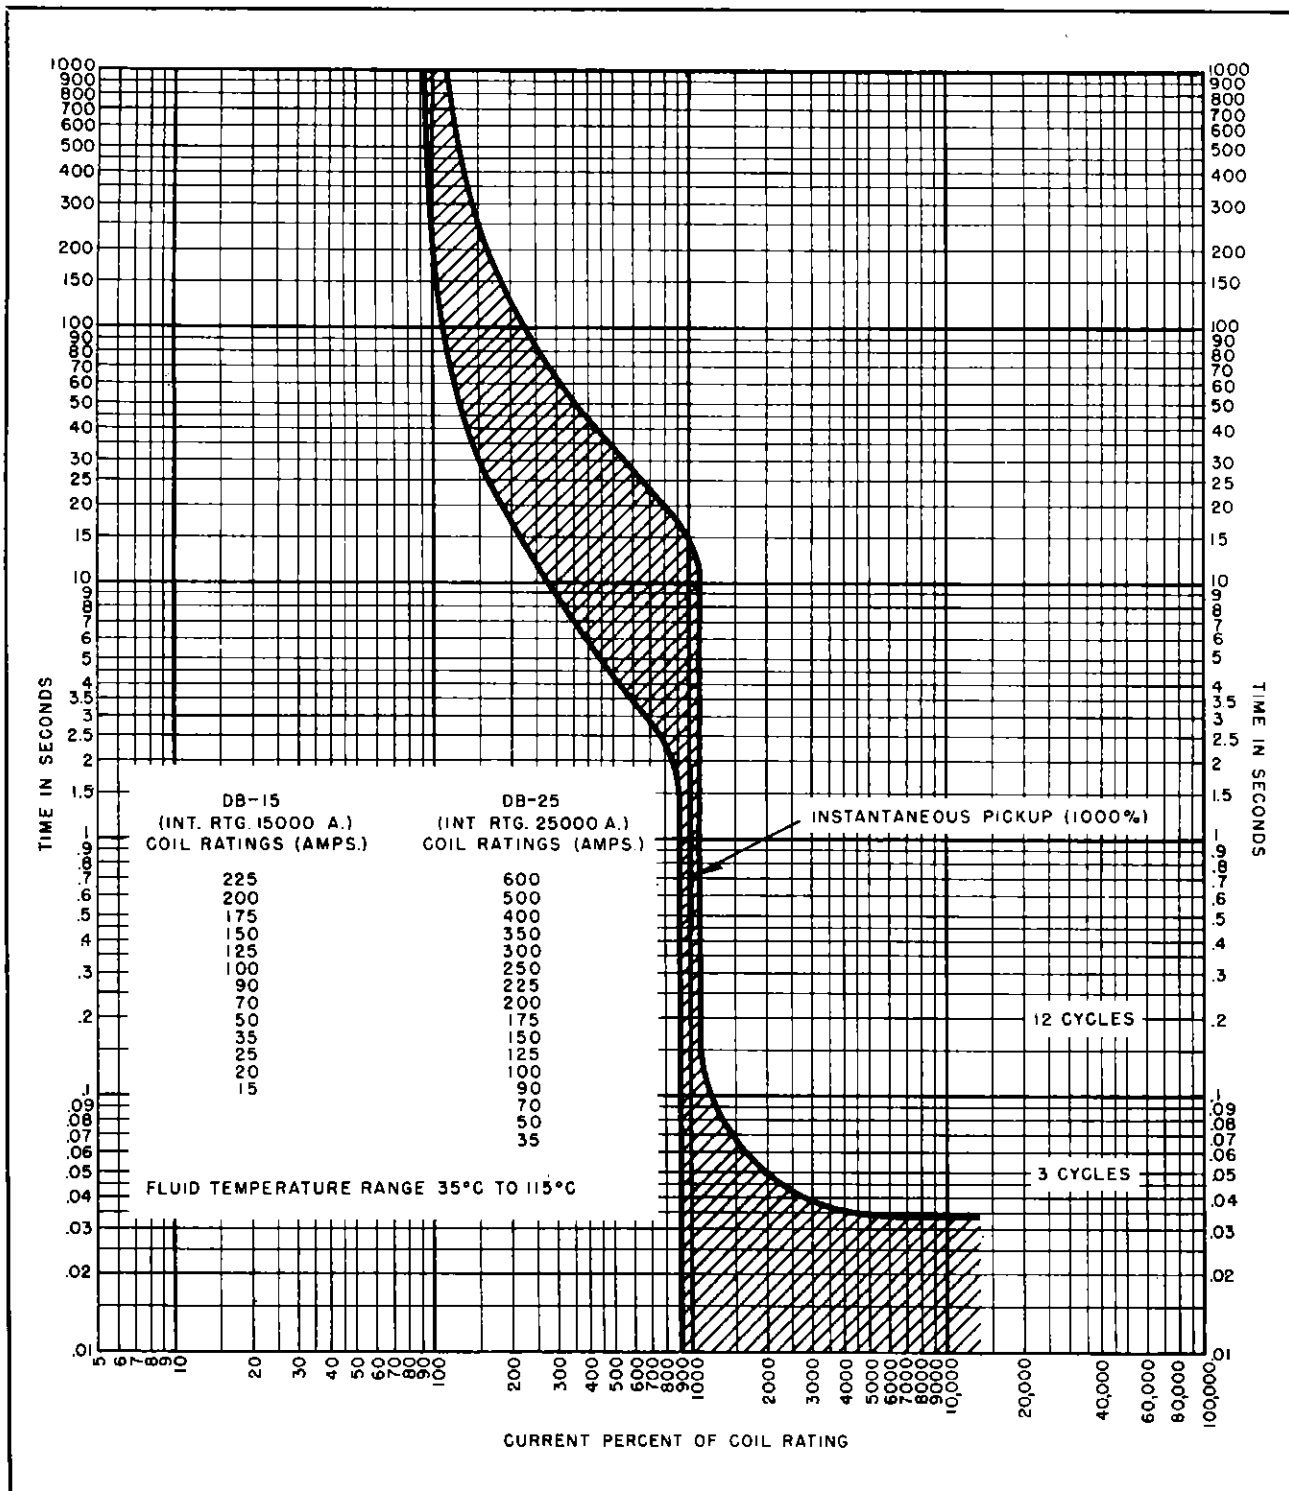

FIG. 8. Tripping Characteristics of DB-15 and DB-25 Overcurrent Tripping Devices with Long Time Delay and Instantaneous Elements
1. *Standard Device.* Long time delay and instantaneous elements as per Fig. 8 with adjustable pick-up for both elements.